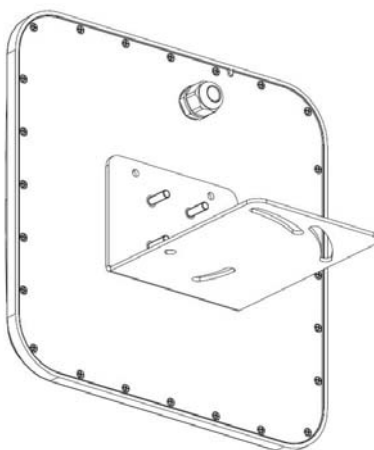

Figure 3-3 L-shaped mounting bracket installation
(1) Align the L-shaped mounting bracket against the screw poles on bottom of reader housing, then install the rubber and screw the M6 nuts, refer to Figure 3-3: